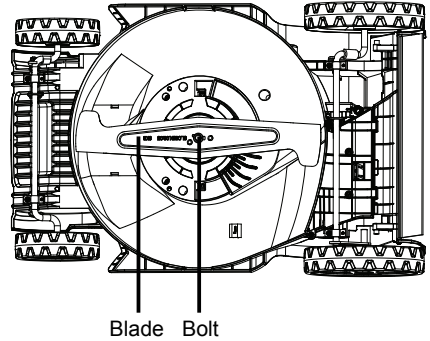

Fig. 17
10. Torque the blade nut down using a torque wrench (not provided) to ensure the bolt is properly tightened (Fig. 17).